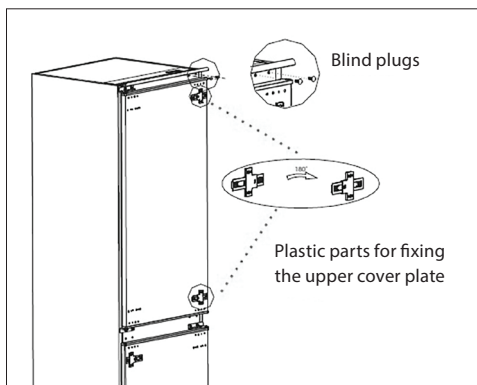

Fig. 6
7. Move the blind plugs of the hinges to the other side of the appliance (Fig. 6).
8. Turn the plastic parts for fixing the upper cover plate by 180° and move to the other side of the refrigerator door (Fig. 6).